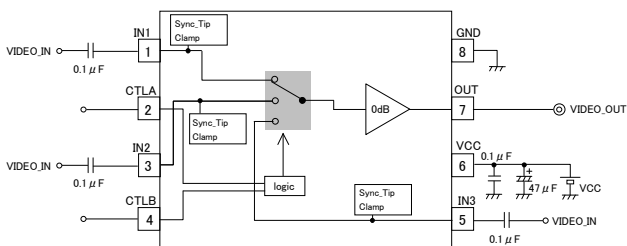
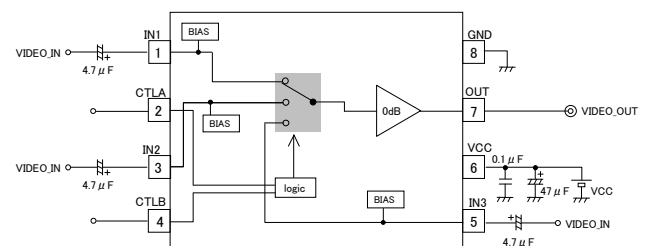

Fig. 9 BH76332FVM
Fig. 10 BH76333FVM
When evaluating the sag characteristics and determining the capacity of the capacitor during video signal input, a horizontal stripe signal called "H bar" (shown in Fig. 10) is suitable, and this type of signal is used instead of a color bar signal to evaluate characteristics and determine capacity.
11. Frequency response in models that do not include a 75-Ω driver (BH76332FVM and BH76333FVM) was measured as 100 kHz/30 MHz: 0 dB (Typ.) in the application circuit examples (shown in Fig. 9 and Fig. 10), and when resistance of about 1 or 2 kΩ is applied from the IC's output pin to GND, this frequency response can be improved (the lower limit of the applied resistance should be 1 kΩ). In such cases, gain is reduced, since the output voltage is divided by the added resistance and the output resistance of the IC.